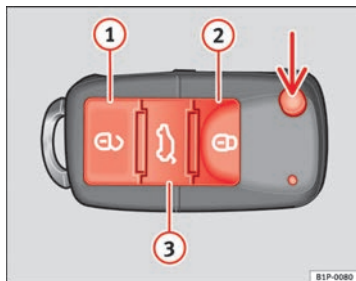

Fig. 64 Assignment of buttons on the remote control key
- Press the  => fig. 64 button on the remote control.